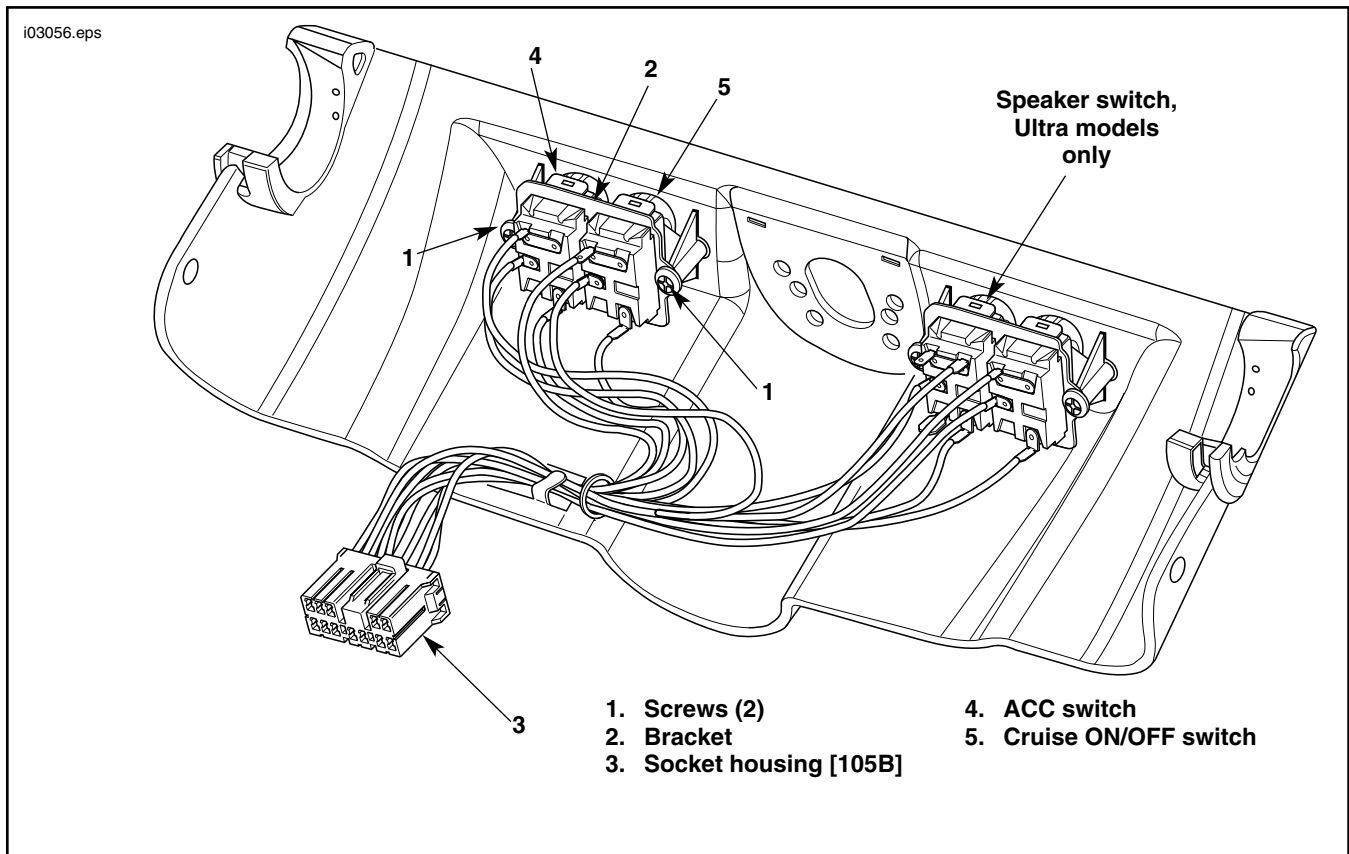

Figure 7. Fairing Cap Switches (Ultra shown)
2. See Figure 7. Remove screws (1) holding switch bracket (2) in place.